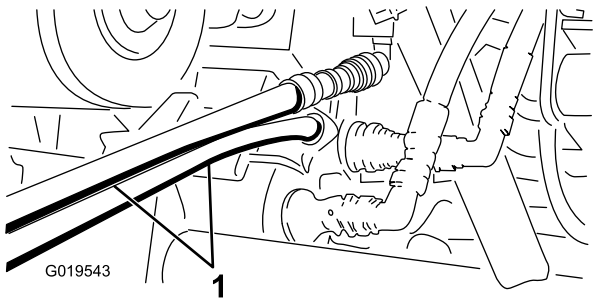

Figure 78
5. On the other machine, connect the 2 hoses to the coupler still in the coupler bracket (connect the top hose to the top coupler and the bottom hose to the bottom coupler) (Figure 78).